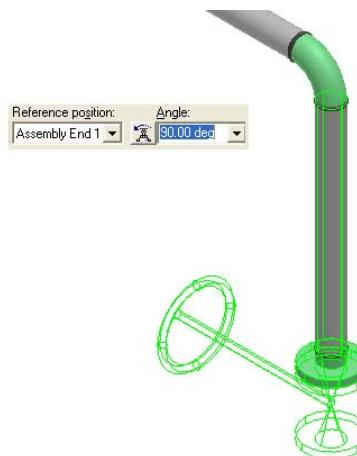

Figure 65: Gate Valve Facing the North Direction
6. On the **Insert Component** ribbon, select the **Assembly End 1** option in the **Reference position** drop-down list to redefine the placement point. Then, key in **90 deg** in the **Angle** drop-down list to rotate the valve so that the operator is facing the north direction, as shown in Figure 65.